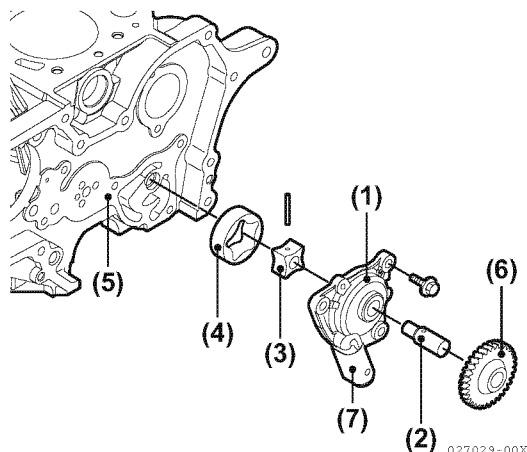

Figure 9-2
3. You can remove by hand the lubricating oil pump cover (Figure 9-2, (5)) and outer rotor (Figure 9-2, (4)).
Clean the lubricating oil pump, pressure regulator valve (Figure 9-2, (7)), and rotor inserting portion. Check the parts for wear or flaw. Replace the parts with new ones as needed.